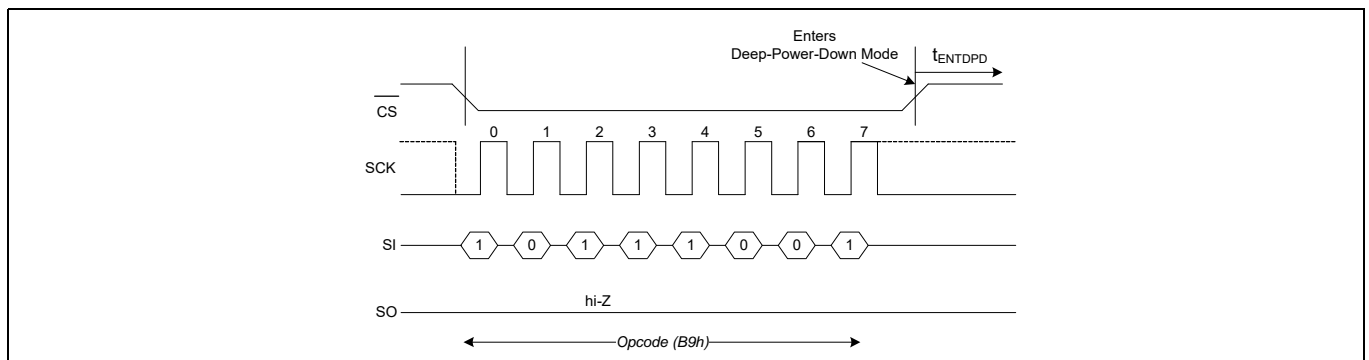
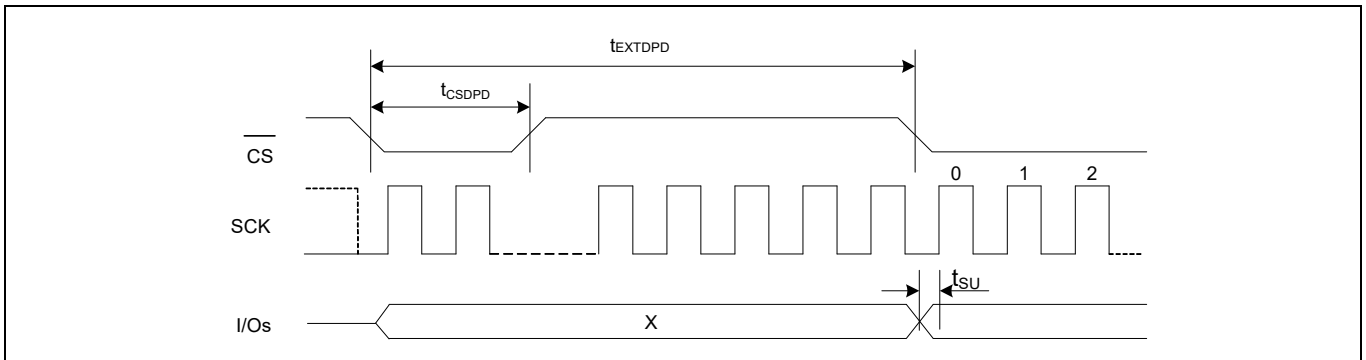

Figure 99 DPD entry in SPI mode
Figure 102 DPD exit in SPI mode
A \overline{CS} pulse-width of t_{CSDPD} or hardware reset exits the DPD mode after t_{EXTDPD} time. The \overline{CS} pulse-width can be generated either by sending a dummy command cycle or toggling \overline{CS} alone while SCK and I/Os are don't care. The I/Os remain in hi-Z state during the wakeup from deep power-down. Refer to **Figure 99** for DPD entry and **Figure 102** for DPD exit timing.
- The timing details shown in **Figure 99** are applicable as is in DPI and QPI modes.